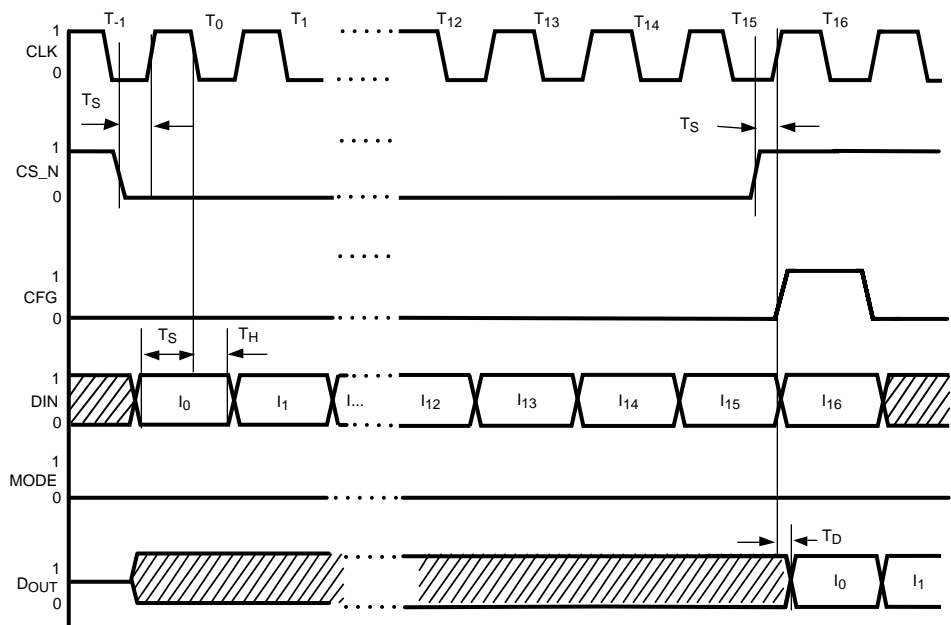

Figure 8. Timing Diagram for Serial Mode
Also illustrated is the timing relationships for the digital pins in Figure 8. It is important to note that all the pin timing relationships are important, not just the data and clock pins. One example is that the Chip Select pin (CS) must transition low before the first rising edge of the clock signal. This allows the internal timing circuits to synchronize to allow data to be accepted on the next falling edge. The chip select pin must then transition high after the final data bit has been clocked in and before another clock signal positive edge occurs to prevent invalid data from being clocked into the chip. Another way to accomplish the same thing is to strobe the clock pin with only the desired number of pulses starting and ending with clock in the low condition. The configure (CFG) pin timing is not so critical, but it does need to be kept low until all data has been shifted into the crosspoint registers.